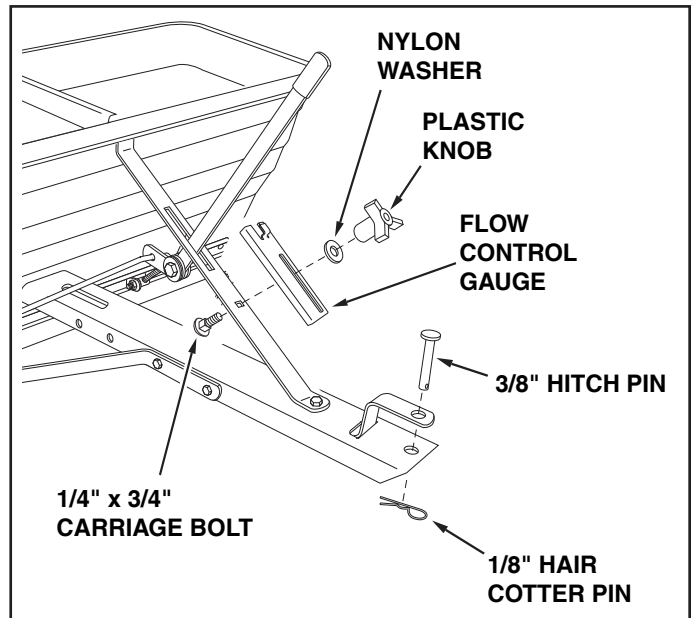

FIGURE 6
12. Assemble the flow control gauge to the hopper brace using the 1/4" x 3/4" carriage bolt, a nylon washer and the plastic knob. See figure 6.
13. Install the hitch pin and the 1/8" hair cotter pin in the spreader hitch bracket and tongue. See figure 6.